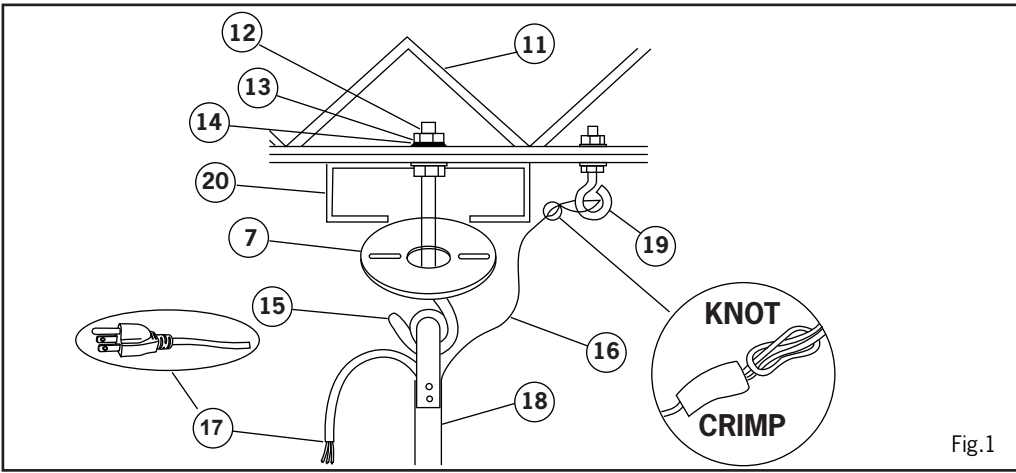

Fig.1
4. To reduce the risk of personal injury, install the safety cable (per Fig. 1).
1. Using Machine Threaded Hooks for Steel Frame Ceiling (Fig. 1)